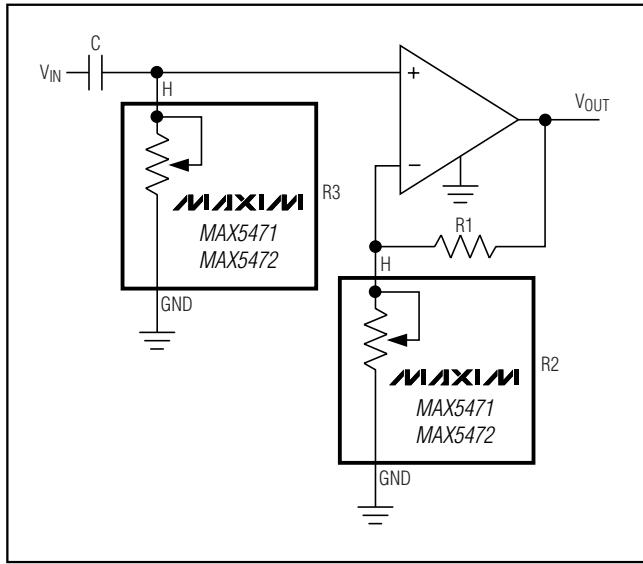

Figure 6. Programmable Filter
Figure 6 shows the configuration of a 1st-order programmable filter. The gain of the filter is adjusted by R2, and the cutoff frequency is adjusted by R3. Use the following equations to calculate the gain (G) and the 3dB cutoff frequency (f_C):